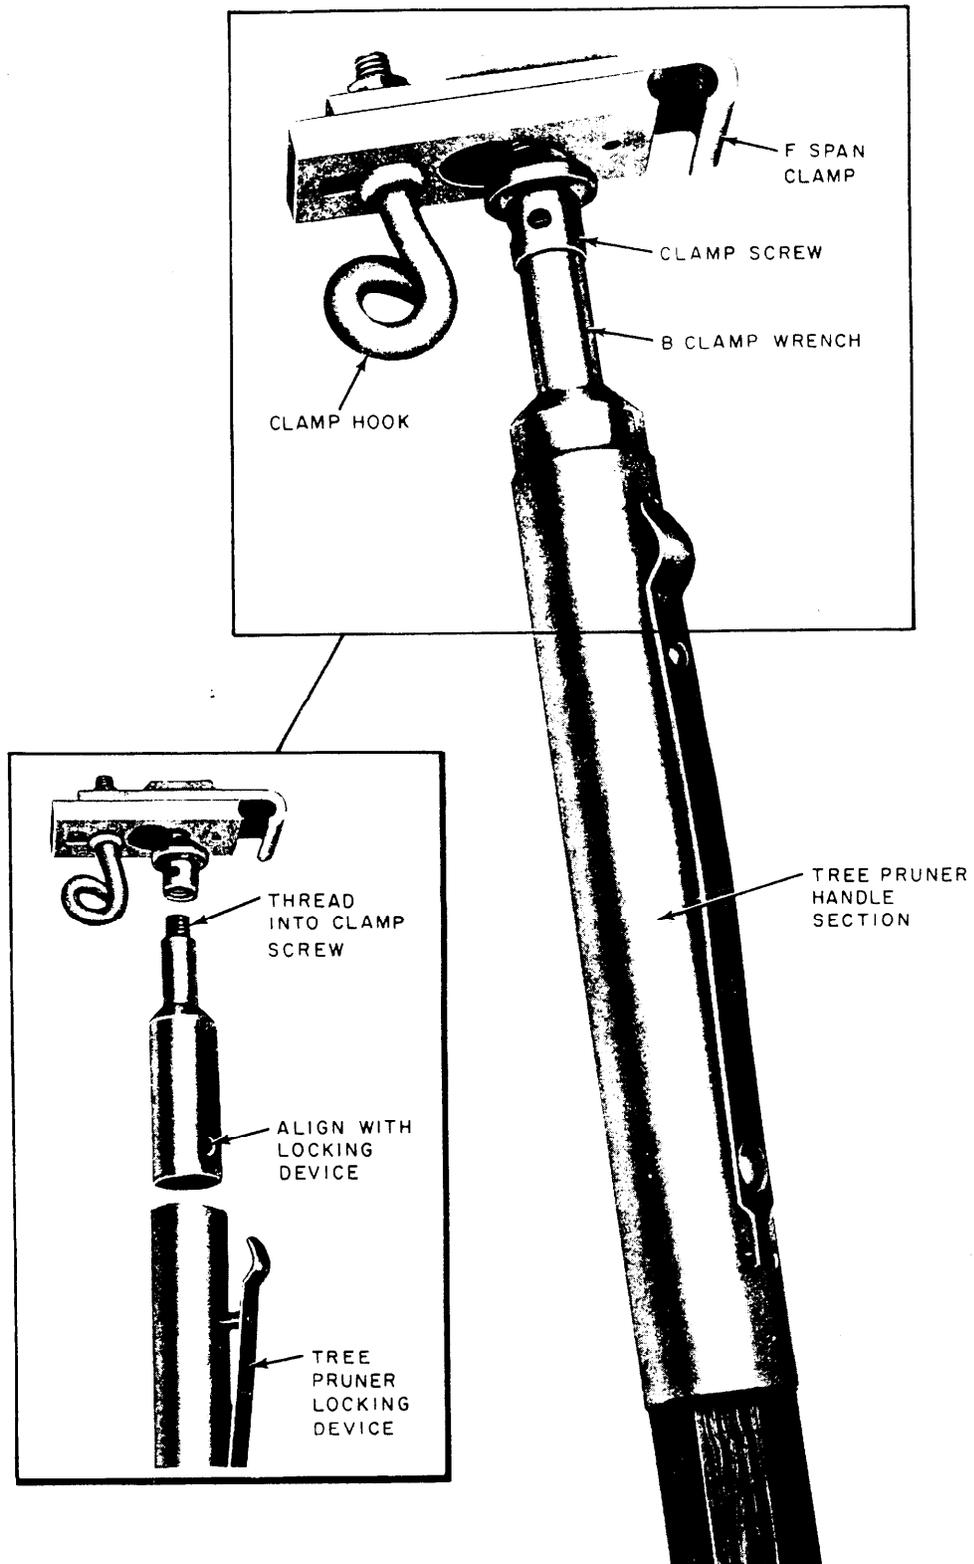

Fig. 27-Clamp and Wrench Attached to Tree Pruner Handle
- (1) Determine the location of the F span clamp on the strand and the drop wire building attachment to avoid obstructions such as chimneys, etc.
- (2) Place the building attachment hardware for supporting the drop wire as described in Section 462-350-213. Place the drop wire reel near the attachment location.
- (3) Unroll sufficient drop wire to reach the span clamp location and the cable distribution terminal at the pole.
- (4) Make certain the F span clamp is open as wide as possible. Back off the beveled clamp screw, if necessary. Screw the B clamp wrench into the clamp screw of the span clamp until the shoulder of the wrench rests against the rim of the clamp screw. Insert the base of the B clamp wrench in the top of the tree pruner handle and lock the wrench securely in place (Fig. 27).